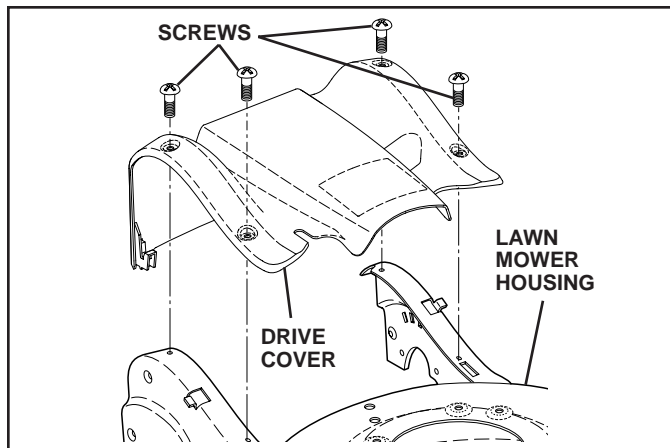

FIG. 16
TO REMOVE DRIVE BELT (See Figs. 16–19)
2. Remove screws retaining drive cover and remove drive cover from lawn mower housing (See Fig. 16).
TO REPLACE DRIVE BELT (See Figs. 16–19)
11. Reattach drive cover with screws previously removed (See Fig. 16).